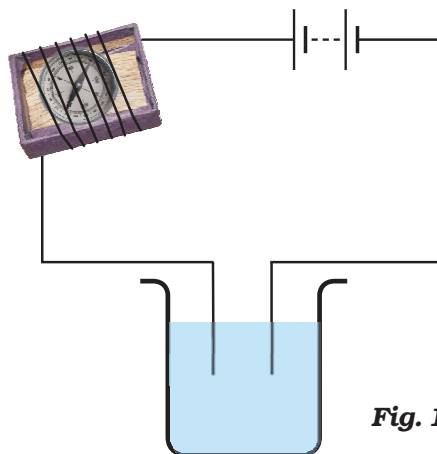

Fig. 14.9
- Name three liquids, which when tested in the manner shown in Fig.14.9, may cause the magnetic needle to deflect.